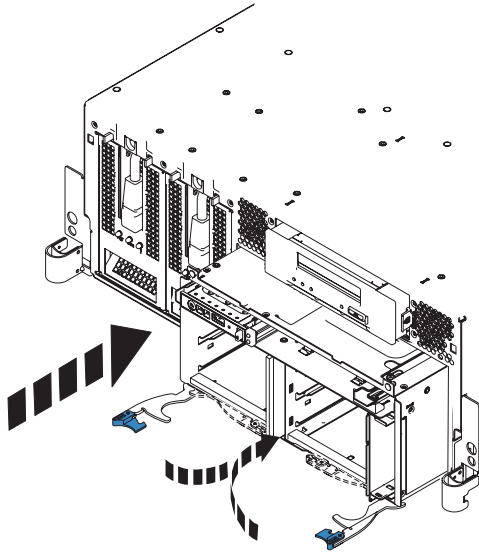

Figure 15. Installing the disk drive cage
- a. Slide the disk unit cage into the system until it locks in place. See Figure 15 on page 20.